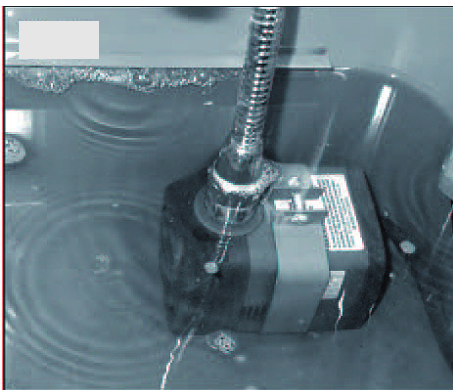

Fig. 6: Assembly TWG 20
Step 3: Fill the tray with a suitable water-based cleaning solution so that the pump is completely covered (Fig. 6).
Step 12: Fill the tray with a suitable water-based cleaning solution so that the pump is completely covered (Fig. 6).